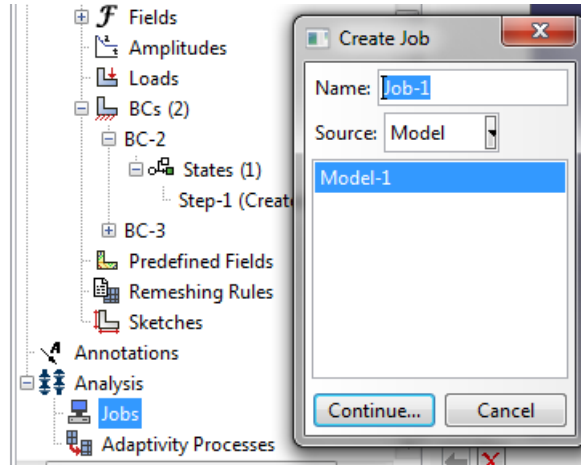

Figure 16
- Under the analysis menu double click on jobs to bring up the menu in Figure 16